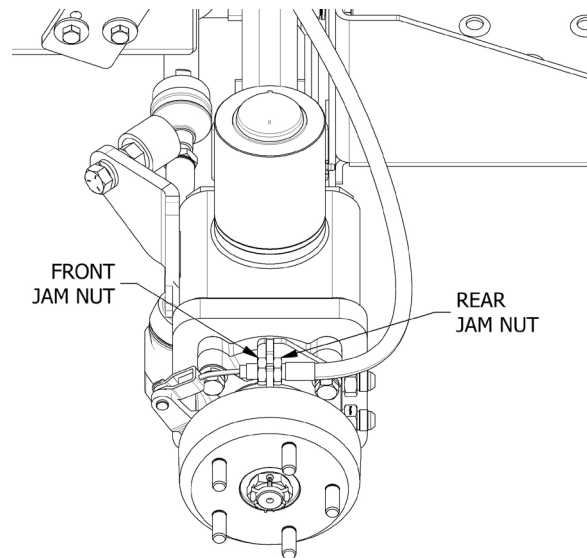

Figure 5.21 – Parking Brake Adjustment at Wheel
If sufficient tension cannot be obtained (See Figure 5.21):
3. Loosen the front jam nut (Figure 5.21) and adjust the rear nut to move the cable housing rearward. Make sure both brakes are adjusted equally.